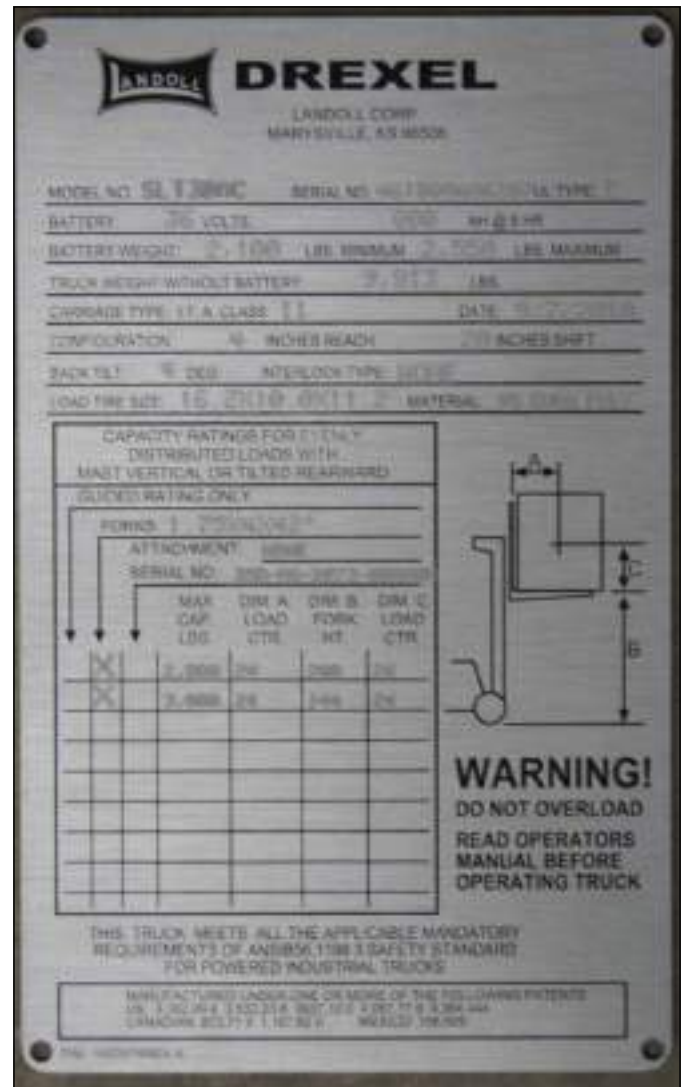

Figure 1-1: Serial Number and Capacity Plate
When ordering parts that will be used for the repair and maintenance of your Landoll SLT30/35 AC truck, the model and serial number of the truck being repaired will be required. This information is located on the serial number and capacity plate located on the right operators console. **See Figure 1-1.**
- Make certain the charger being used matches the voltage and amperage of the truck battery. This voltage is listed on the truck serial plate. See Figure 1-1.